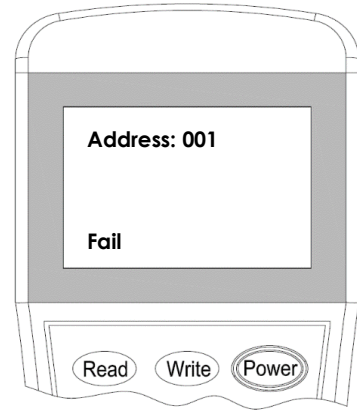

Figure 6
**Note:** If display **"Success"**, means the entered address is confirmed. If display **"Fail"**, means failure to program the address (Figure 6).